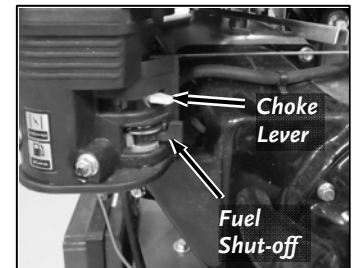

Figure 26
1. Make sure the Fuel Shut-off is in the “OPEN” position (**Figure 26**).